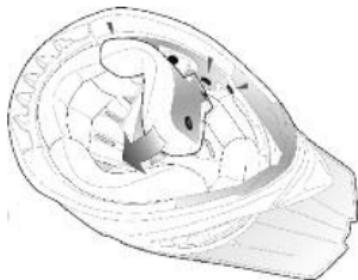

figure 4A
**Removing the pads – see fig. 4A**